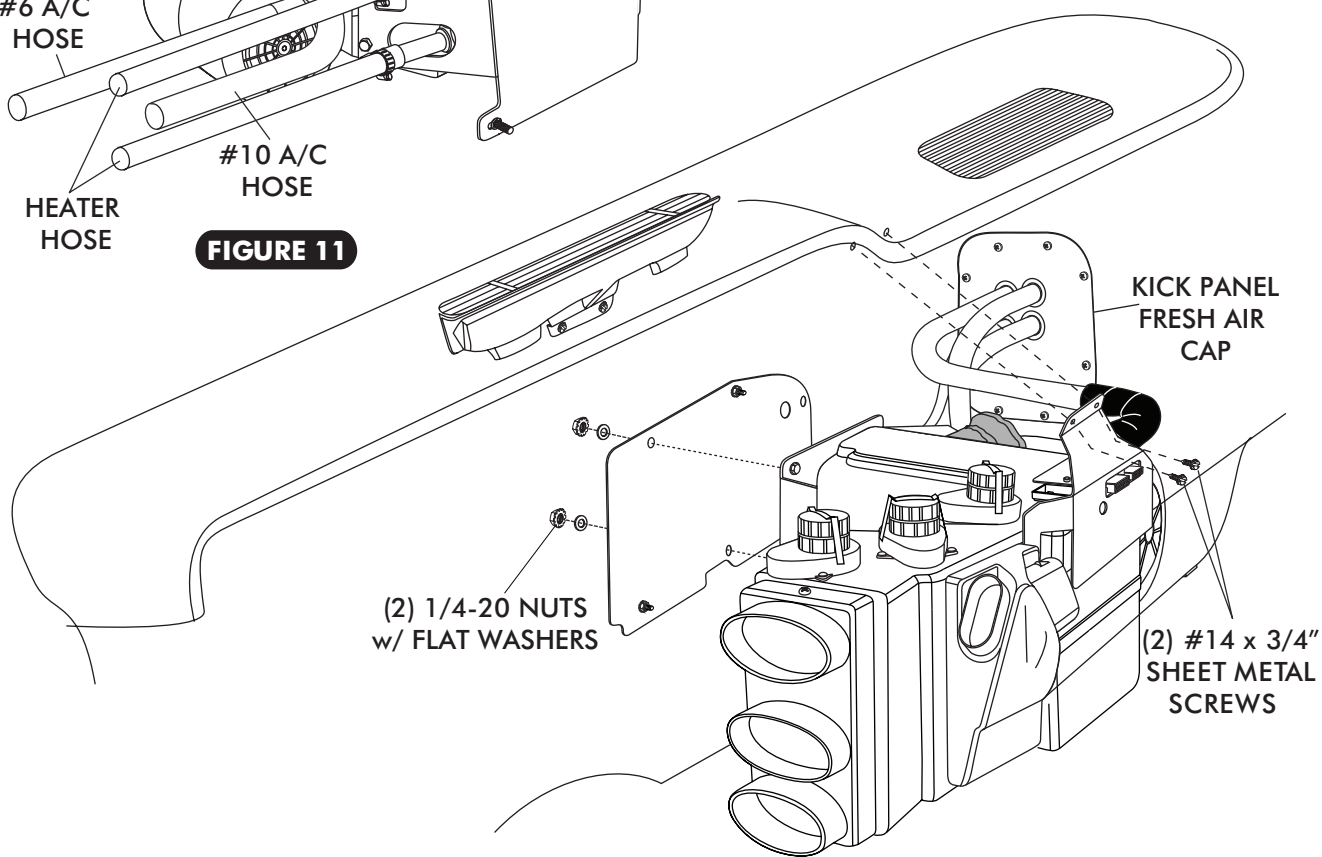

FIGURE 12
- LIFT EVAPORATOR UNIT UP UNDER THE DASHBOARD. SECURE LOOSELY TO THE FIREWALL FROM THE ENGINE COMPARTMENT SIDE USING (2) 1/4-20 NUTS AND FLAT WASHERS. SEE FIGURE 12.
- SECURE THE FRONT EVAPORATOR MOUNTING BRACKET TO COWL USING (2) #14 x 3/4" HEX SHEET METAL SCREWS. SEE FIGURE 12 BELOW.